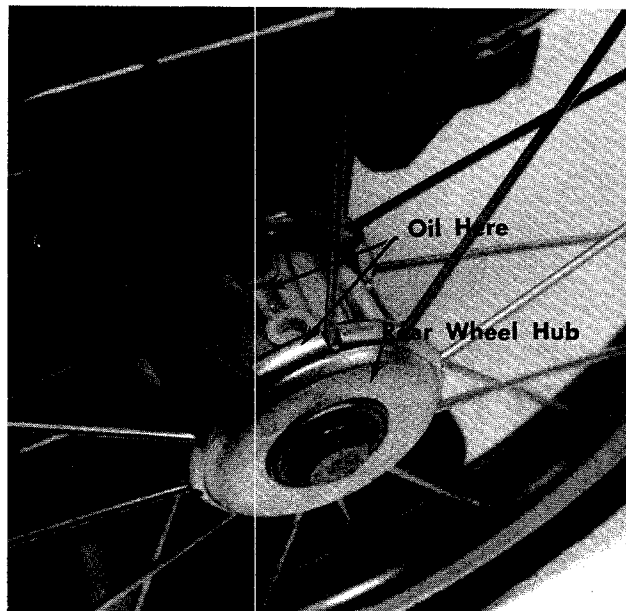

FIGURE 35. REAR WHEEL LUBRICATION
- b. Rear wheels to be oiled at oil caps in rear wheel. See figure 35.